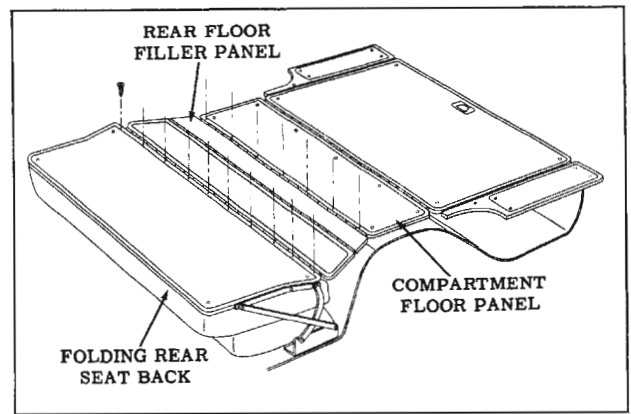

Fig. 16-323 Folding Rear Floor Filler Panel Assembly
2. Remove filler panel to folding seat back attaching screws, and filler panel to rear seat pan attaching screws as shown in Fig. 16-323 and remove filler panel from body.